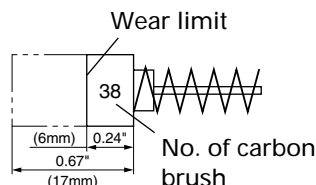

Fig. 19
3. Inspecting the carbon brushes (Fig. 19)
**NOTE:** Use HITACHI carbon brush No. 38 indicated in Fig. 19.